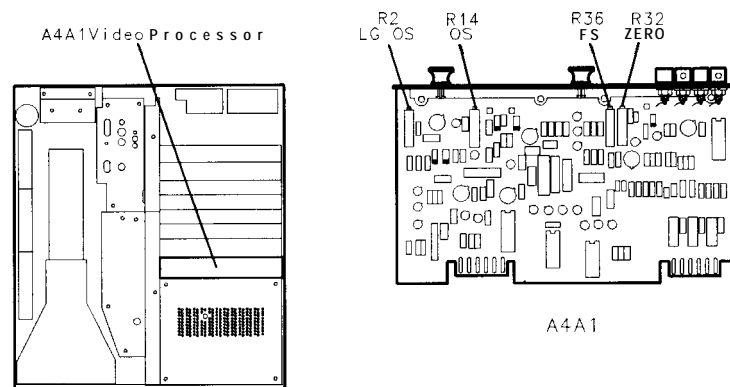

Figure 3-36. Location of Video Processor Adjustments
- Adjust A4A1R14 OS for a DVM indication of 0.000 ± 0.003 Vdc. See Figure 3-36 for the location of the adjustment.
- Adjust A4A1R2 LG OS for DVM indication of $+0.100 \pm 0.001$ V dc greater than the DVM indication recorded in step 19. See Figure 3-36 for location of adjustment.